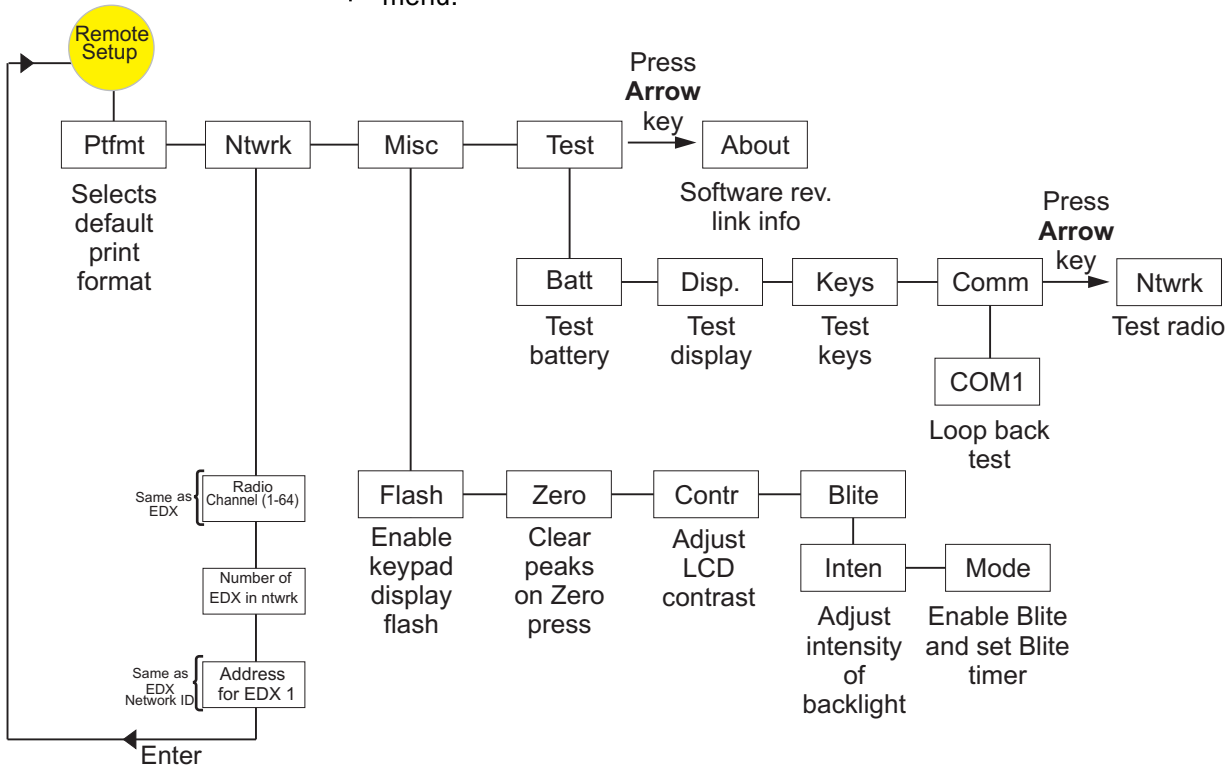

Figure 10
- Config** Accesses the Config menu shown in Figure 10.
The configuration menu, shown in Figure 10, allows you to set the items described below. Press the **Config** soft key to enter the menu. You will be asked to key in a password, then press the **Enter** soft key to access the menu.